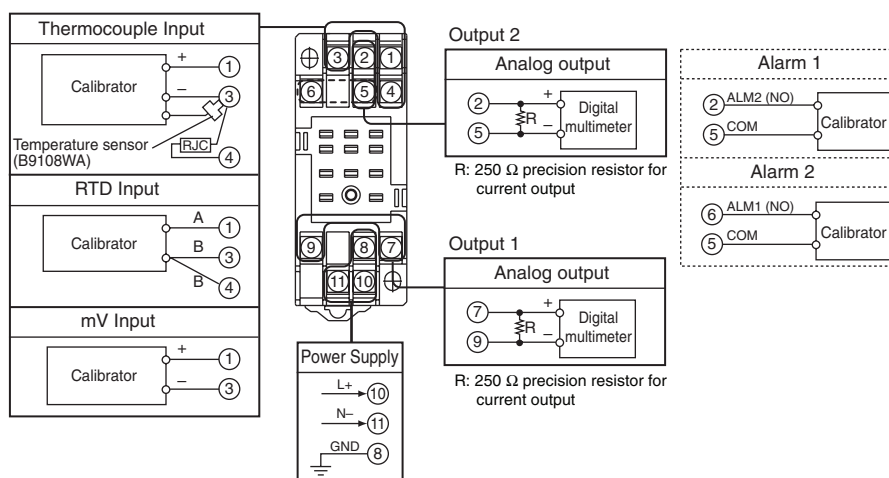

Fig. 12.1
- (1) Connect the instruments as shown in Fig.12.1.